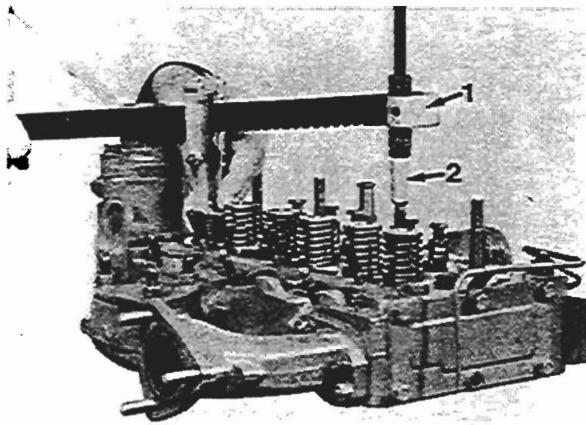

Fig. F5
- Compress the valve springs with a suitable valve spring compressor (see fig. F5) and remove the split collets. Tool 6118B with adaptor PD6118-3 can be used to compress the valve springs with the head on a flat surface.